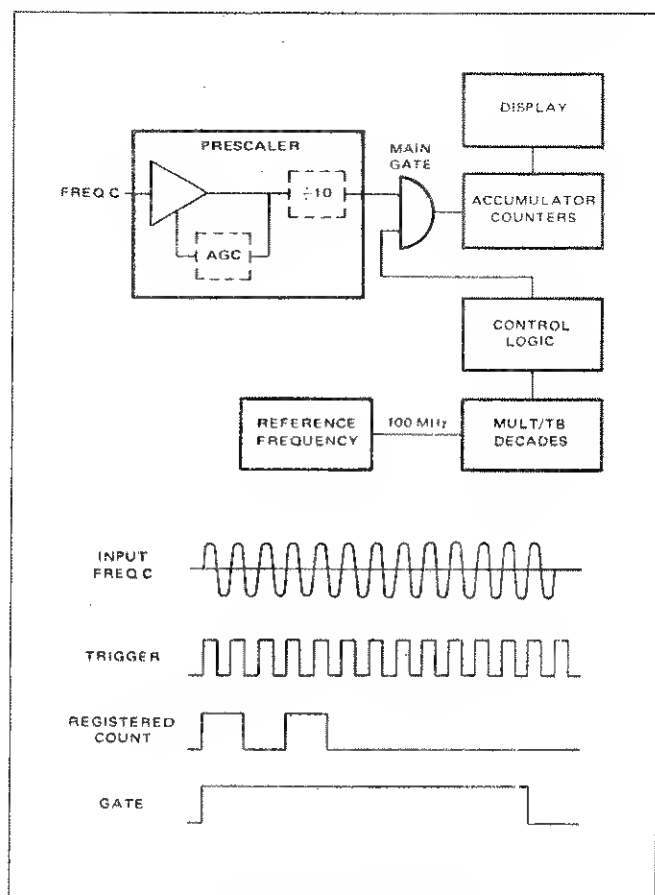

Figure 4.6 - Frequency C
4.3.6.1 In the Frequency C mode, the signal of unknown frequency is applied to the main gate through the prescaler. The prescaler includes an amplifier, automatic gain control circuit, and a divide-by-ten circuit (figure 4.6).